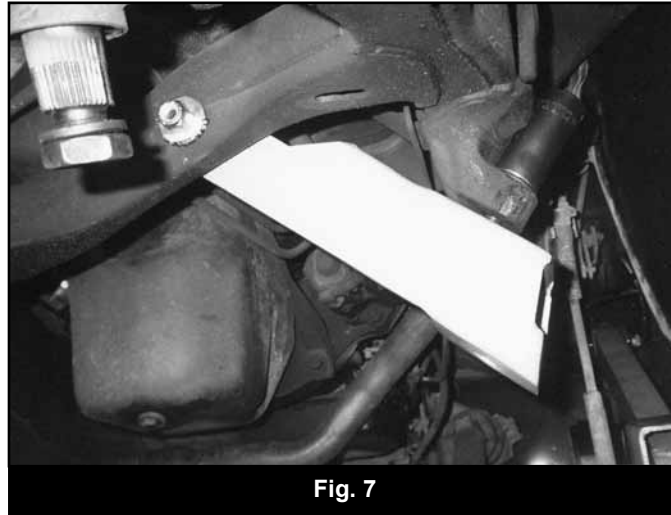

Fig. 7
23. Install a 1/2 x 2-1/2" bolt with washer through the brace and crossmember. On the front side of the crossmember install the step washer over the weld mount to create a flat surface. Install the nut and torque to 70-75 ft-lbs. Be sure not to crush the crossmember. Then torque the 18mm bolt to 200 ft-lbs. (Fig. 7)